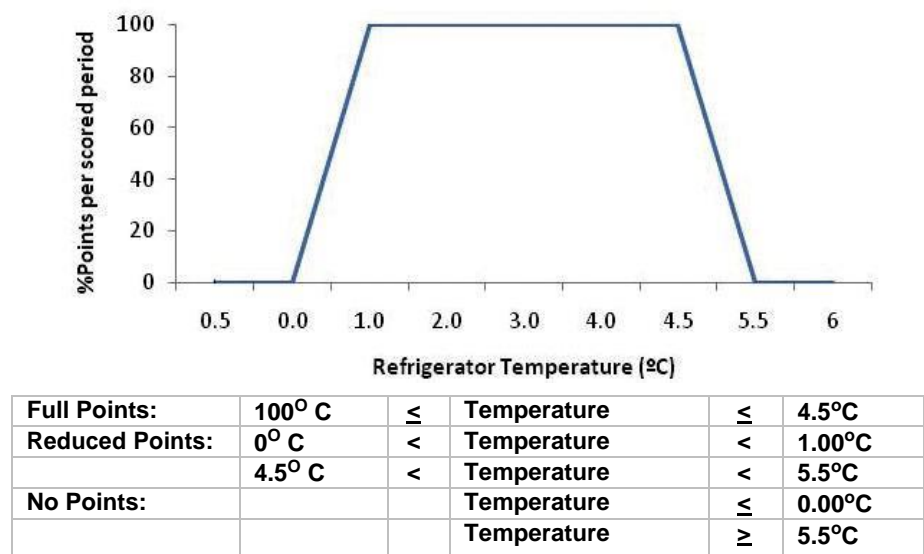

Figure 5.1: Refrigerator sub contest point's distribution
- a) Reduced points are earned if the time-averaged interior refrigerator temperature is between 0.0°C and 1.0°C or between 4.5°C and 5.5°C. Reduced point values are scaled linearly, as shown in Figure 5.1